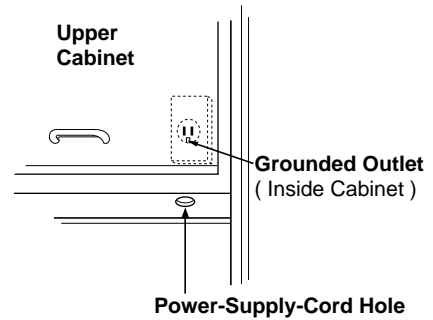

Figure 4
1. Locate the grounded electric outlet for this oven in the cabinet above the oven, as shown in Figure 4.
2. You will cut the power-supply-cord hole (shown in Figure 4) later when you prepare the wall and upper cabinet in Step 4.